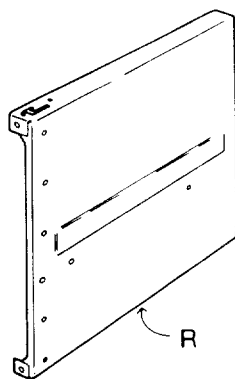

Fig. 16
10. Find the *right* and *left side panels*. Look carefully to find the "R" and "L" stamped in the metal near the center of the wide edge. These stamps are the easiest way to tell the *right side panel* from the *left*. (Figure 16)